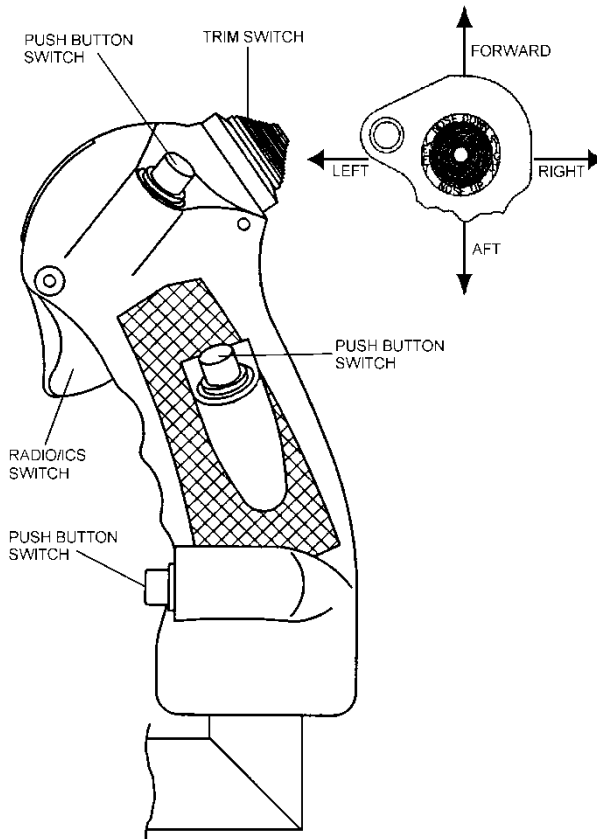

Figure 7-9. Cyclic Grip Switches
2. Cyclic Control. The aircraft is equipped with optional dual cyclic sticks, each located directly in front of the respective pilot and copilot seats. The right hand cyclic is removable at floor level. The two sticks are mechanically interconnected so that the movement of one stick moves the other stick simultaneously. The switches mounted on each cyclic grip assembly control the systems marked by each switch on the grip (Figure 7-9). The "coolie hat" four way toggle switch (momentary contact) at the top center of the grip is used to control the four way cyclic control trim system. The two detent (momentary contact) ICS/Radio trigger switch located on the forward face of the grip is used to transmit on ICS (optional equipment) or on the selected communications radio (optional equipment). Each of the push button switches can provide the pilot remote control of frequency selection on the communications or navigation radio or other functions depending on the optional equipment installed.